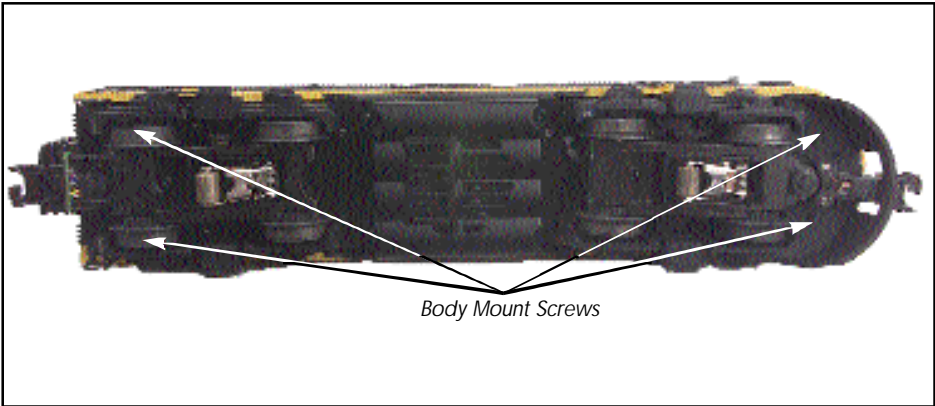

Figure 3 - Location of body mount screws
1. Unscrew the body mount screws as shown in Figure 3 and remove the body shell from the chassis.
Remove shell by removing body mount screw shown in figure 3 on page 9. Once the body shell has been removed, disconnect the bulb harness from the socket on the constant voltage circuit and replace the bulb.